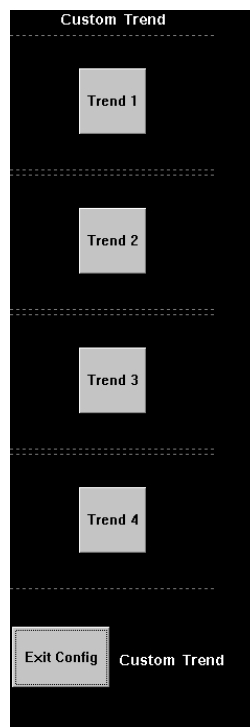

Figure 8-11. Trend Selection Controls
2. Touch the **[Config]** button to enter a configuration mode. Four selection buttons appear on the screen: **[Trend 1]**, **[Trend 2]**, **[Trend 3]**, and **[Trend 4]**. See Figure 8-11.